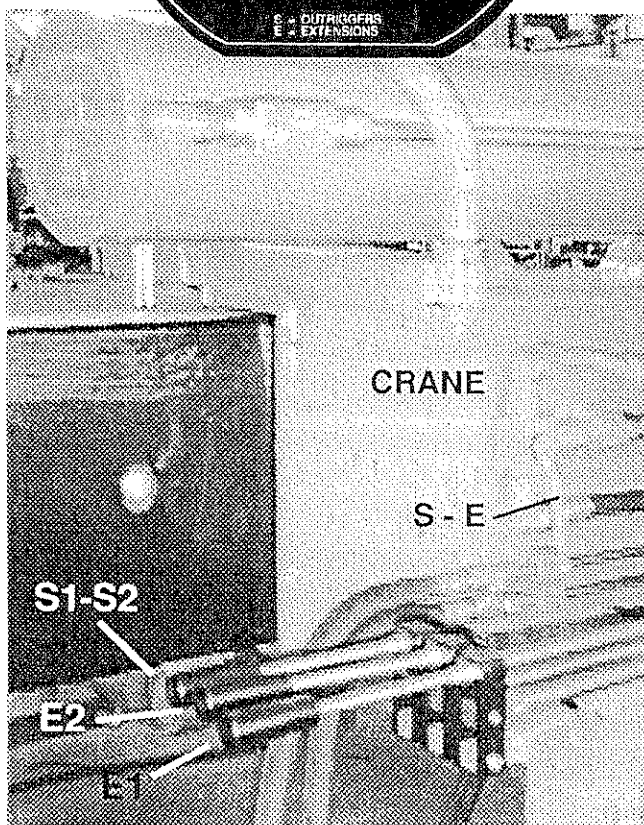

fig. 5
- (!) The extension and the re-enter of the outrigger supports and rams indicated on fig.5 and 6 coincide with what indicated on plates DE1469 and DE1470 placed on the crane rotation cylinders.
On the plate DE1469 is also reported the oil diverter (placed on the side of the base beam fig. 5, on the left side of the vehicle) with the position of the lever for CRANE S-E control (S=outriggers, E=extensions).
Levers function E1 - E2 - S1/S2 of fig. 5
- move the lever of the S-E CRANE oil diverter fig. 5, (placed on the beam of the crane base, on the left side of the vehicle), on the S-E position (outriggers - extensions).
To have the crane in working condition, the CRANE-S E oil diverter lever fig. 5, placed on the base beam, must be positioned on the CRANE position.